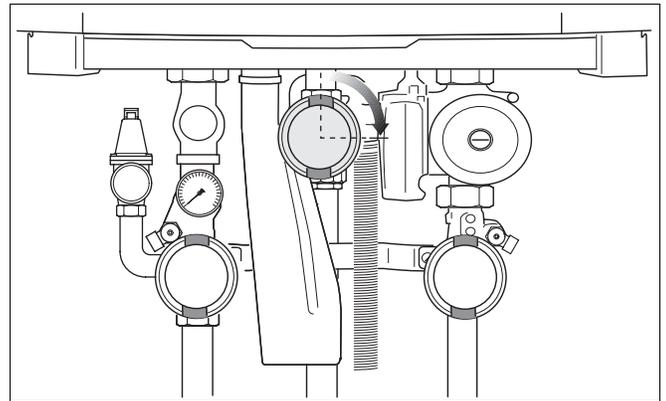

Fig. 73 Closing the gas valve
- Close the main gas supply or the gas valve (fig. 73).